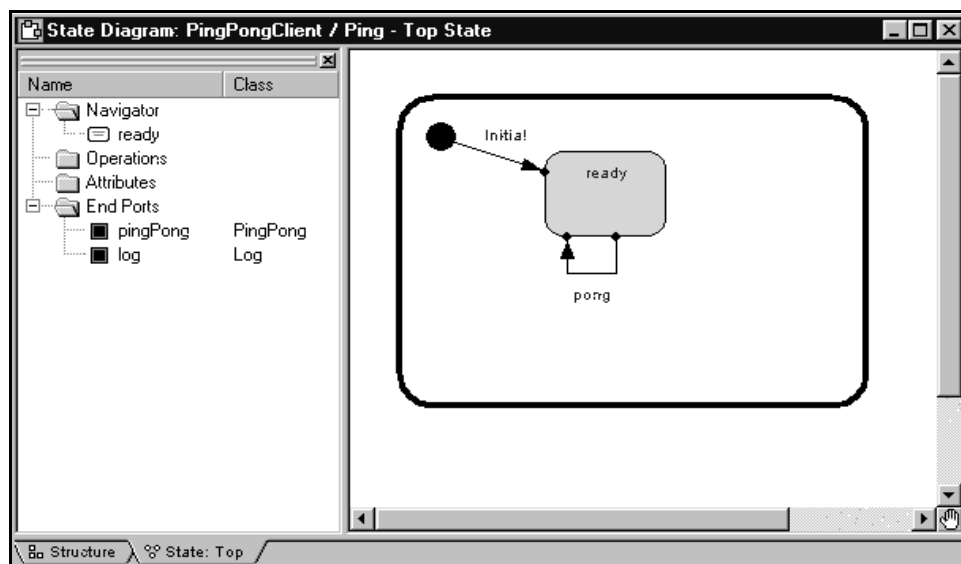

Figure 20 Creating states
8. Select the self transition tool  and draw a self transition on the ready state, name this transition "pong." Your diagram should look similar to Figure 20.